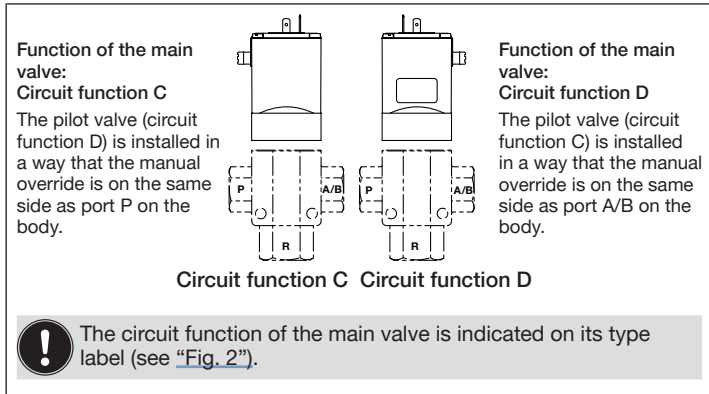

Fig. 1: Arrangement of the pilot valve
- At the pilot valve ②, loosen the two unsealed screws ①.
- Before removing the pilot valve, pay attention to the arrangement of the pilot valve (see “Fig. 1”, page 5).
- Remove the pilot valve ② and the O-rings ③ from the main valve.
- Insert the new O-rings ③ correctly into the recesses of the main valve.
- Note:** The O-rings ③ are not required for DN 8. The pilot valve ② is placed directly on the flat seal ⑤ of the main valve.
- Place the new pilot valve ② on the main valve. Please observe the arrangement of the pilot valve (see “Fig. 1”, page 5).
- Tighten the screws ① (tightening torque 1.5 to 2 Nm).